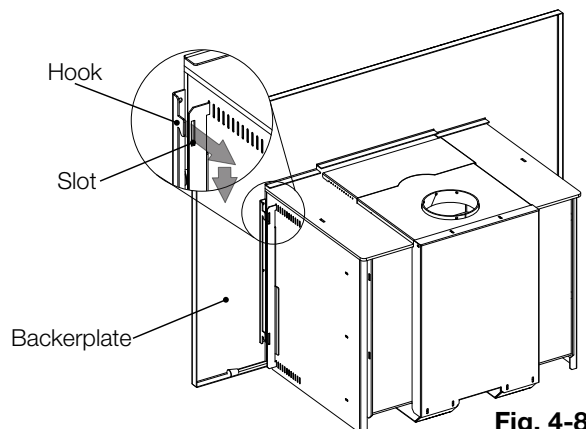

Fig. 4-8
- B. Place the hooks on the backerplate into the slots in the brackets previously installed in step A (**Fig. 4-8**).